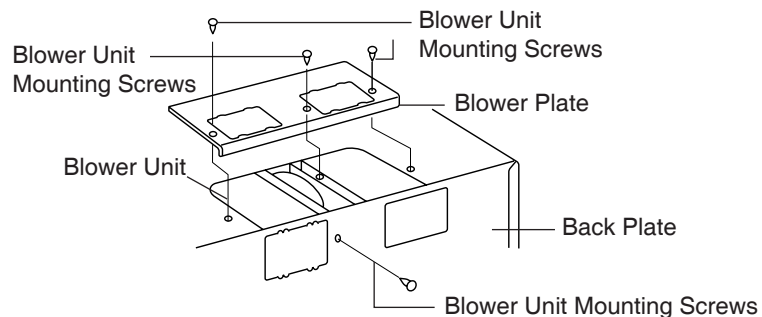

Fig. 1-2-4
- (5) Replace blower cover plate onto the product. Secure blower unit with two screws, one through the blower plate, and the other through oven back plate. Secure blower plate onto the product top with two screws. (Fig. 1-2-4)